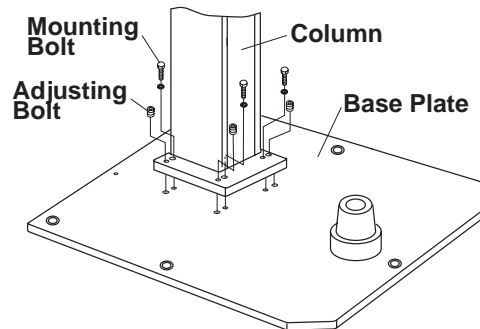

Fig.3-15 Fixing Column on Base Plate
3. Install the column on the baseplate with mounting bolts. Make it vertical with adjusting bolts. (Fig.3-15)